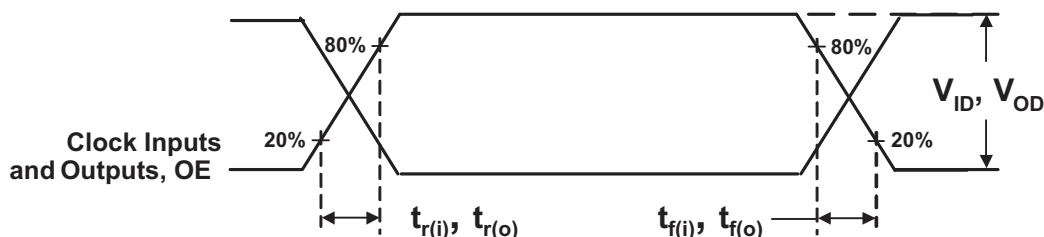

Figure 9. Input and Output Slew Rates
(1) V_{OD} is the magnitude of the difference between the true and complimentary outputs. See Figure 9 for a definition.(2) Total I_{DD} = I_{DDQ} + I_{ADD} = f_{CK} × C_{PD} × V_{DDQ}, solving for C_{PD} = (I_{DDQ} + I_{ADD})/(f_{CK} × V_{DDQ}) where f_{CK} is the input frequency, V_{DDQ} is the power supply, and C_{PD} is the power dissipation capacitance.